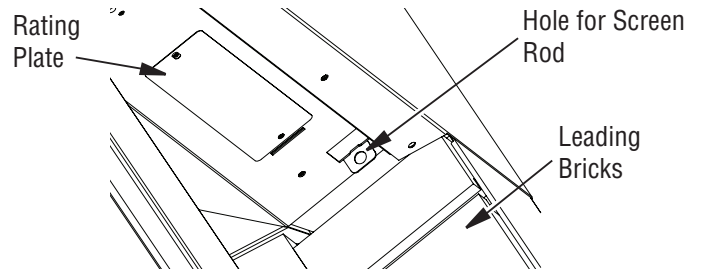

Figure 15 - Installing Fireplace Screen
2. Insert the round end screen rod into hole on the left and right side of smoke shelf (*Figure 15*).